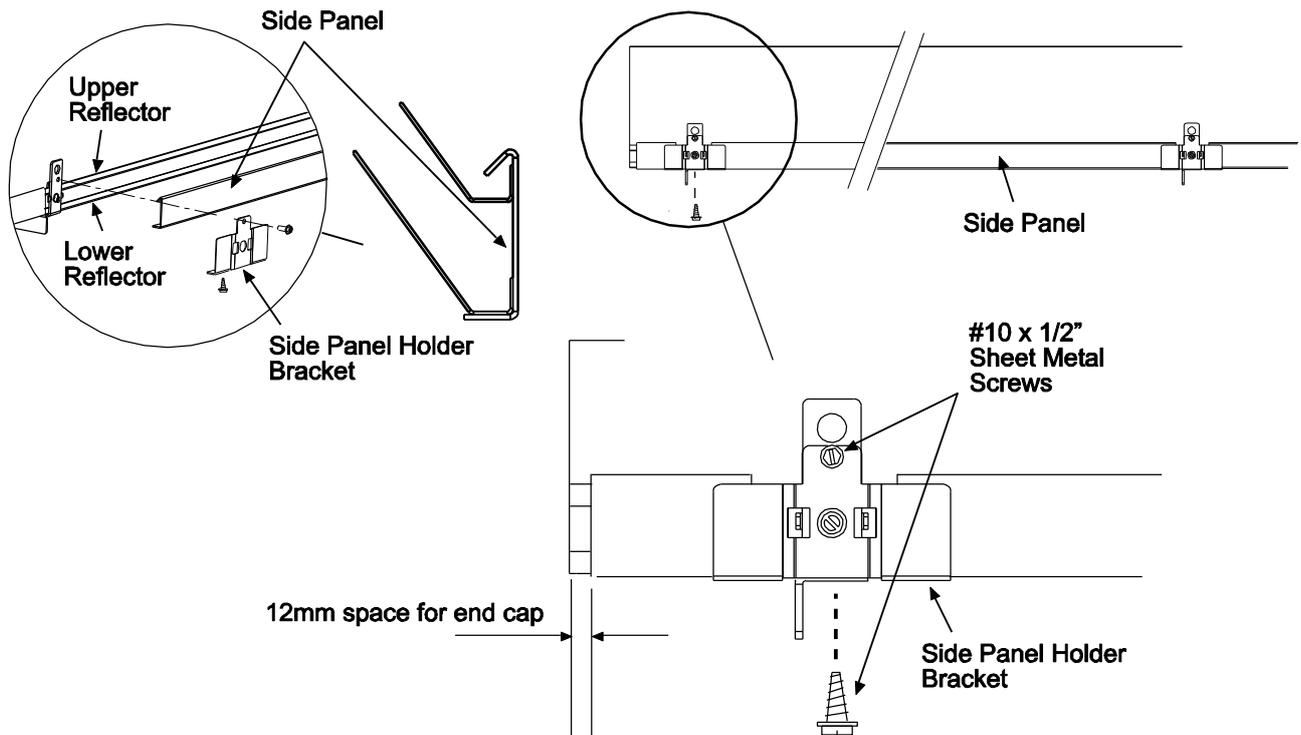

Fig. 22j
12. Place **side panels** over the sides of both reflector panels between each tube support/hanger bracket and at the ends of the heater. Secure these in place using the side panel holder brackets and two #10 x 1/2" sheet metal screws supplied in fastenings kit. See Figure. 22j below: